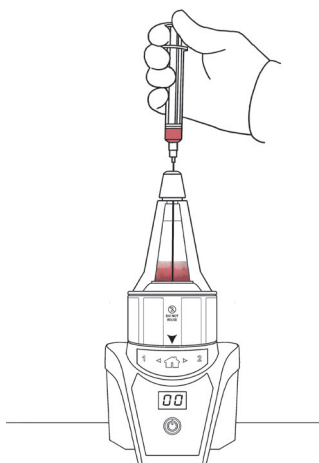

Figure 12
- Insert cannula into valve on top of Disposable Unit until cannula tip reaches the bottom center of the inner chamber (Figure 12).